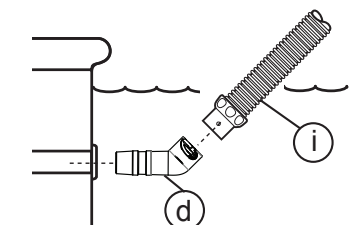

Figure 3. Hose Connections
3. Angle the elbow toward the water surface (Figure 3).